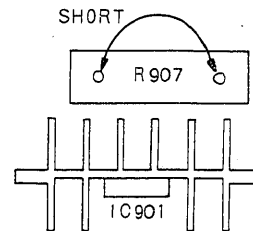

Fig. 2
4. Set the AC input voltage to 100 volts, and short circuit both terminals of R907 as shown Fig. 2.